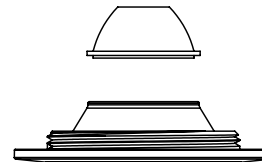

Figure 13
Step 2. Remove existing optic (Fig. 13) and place new optic on top of trim.